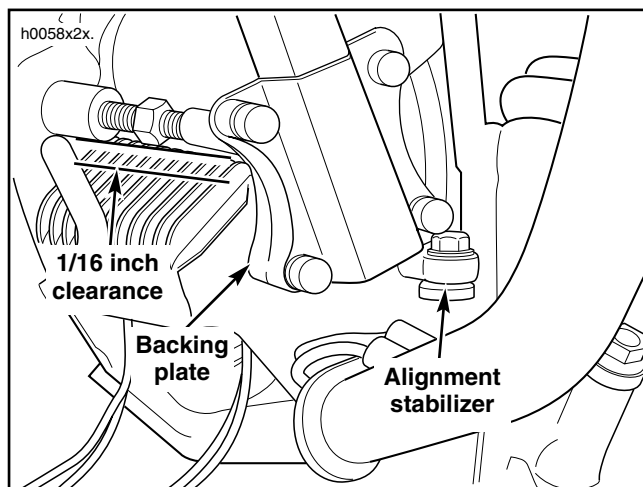

Figure 9. Lower Front Mount
1. See Figure 9, and Service Parts illustration. Thread the stabilizer adjuster (27) into the right and left stabilizers (3 and 4). The stabilizers are marked with an "R" and "L" to indicate right and left respectively. The right stabilizer has right hand threads - the left stabilizer, left hand threads.
4. See Service Parts illustration. Position the lower front mount (2) on the right frame downtube opposite the right stabilizer and insert four bolts (15) thru mount and stabilizer.
6. See Figure 9. Check that clearance between lower front mount assembly and regulator is 1/16 inch and that clearance exists between backing plate and front alignment stabilizer.